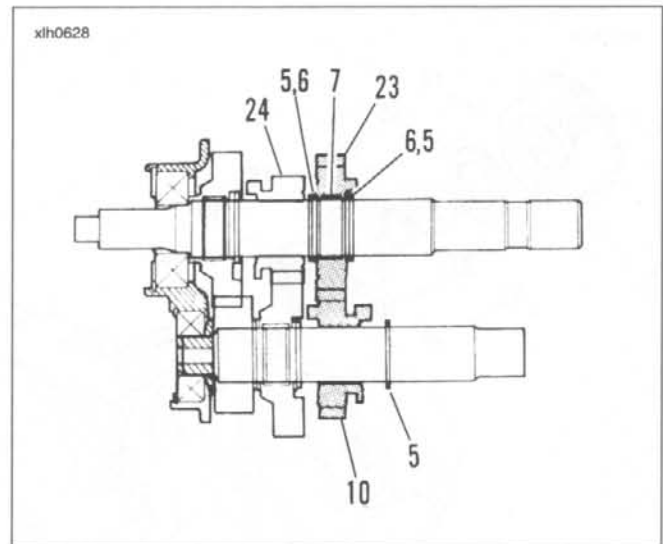

Figure 6-40.
4. Remove split bearing (7) that was under gear (11) and thrust washer (6) on the countershaft. See Figure 6-40. Remove retaining ring (5) next to countershaft 3rd gear (10). Slide countershaft 3rd gear (10) off free end of shaft.
5. At mainshaft, between mainshaft 1st gear (24) and mainshaft 3rd gear (23), expand retaining ring (5) and move next to mainshaft 1st gear along with thrust washer (6). Move mainshaft 3rd gear as far as possible toward mainshaft 1st gear (24). Expand retaining ring (5) at opposite side of mainshaft 3rd gear and slide off end of shaft. Remove mainshaft 3rd gear (23) and its split bearing (7).
6. Slide thrust washer (6) off end of mainshaft. Expand retaining ring (5), which is next to mainshaft 1st gear (24), and slide off end of shaft.